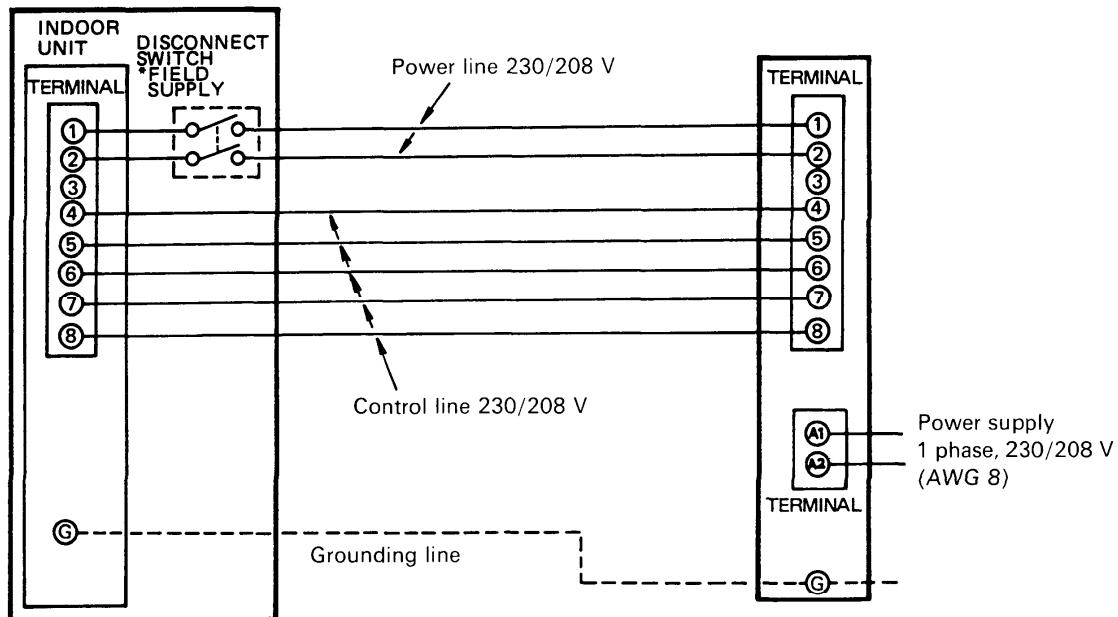

Fig. 8
- b) Connect interunit control line and power line per drawing on inside of the panel "C". Fig. 8